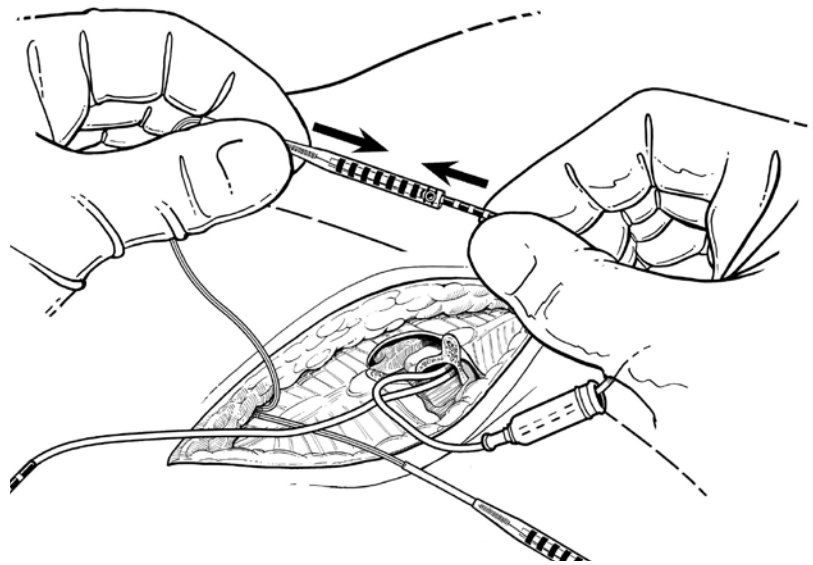

FIGURE 56
- 5 For each lead body, hold the extension connector straight while firmly, but gently, inserting the lead into the connector one or two contacts at a time until each lead contact is aligned under each extension connector contact (FIGURE 56). During insertion, some resistance is typical because internal seals provide electrical isolation.